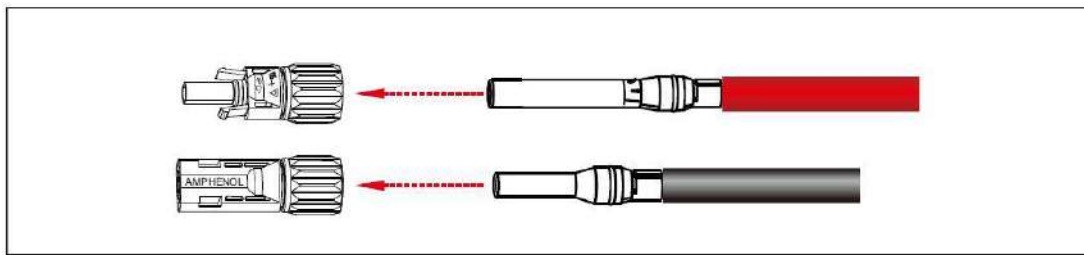

Figure 5.13 Connecting positive and negative connectors
Step 3 Insert the crimped positive and negative power cables into the corresponding positive and negative connectors until a "click" sound is heard, as shown in Figure 5.13.